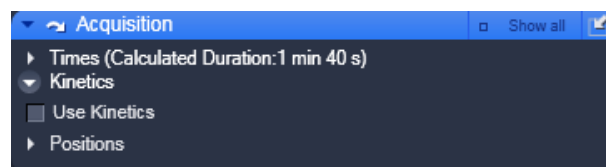

Fig. 40 Kinetics panel
- Click on the **Kinetics** tab to open the **Kinetics** panel (Fig. 40). Click again to close the panel.